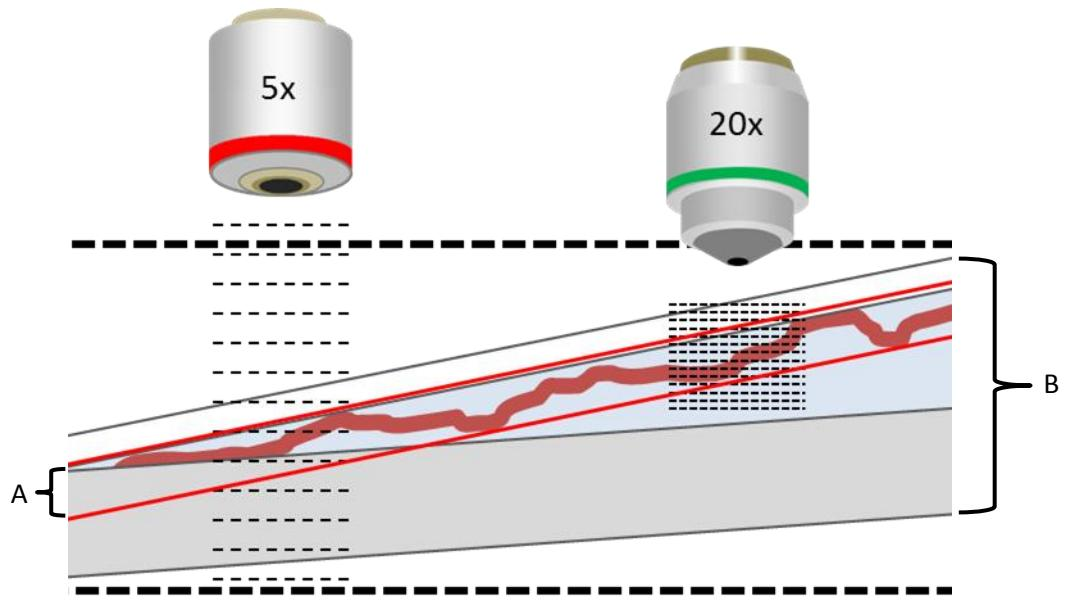

Figure 15      Schematic showing macro and micro flatness
In figure 15 (above) you can see the **macro-flatness** variation as the range between the two heavy black dotted lines (A). Tilt in the slide, cover slip, and mountant thickness, all contribute to **macro-flatness**. The specimen **micro-flatness** is shown as variations in tissue level between the two solid red lines (B).